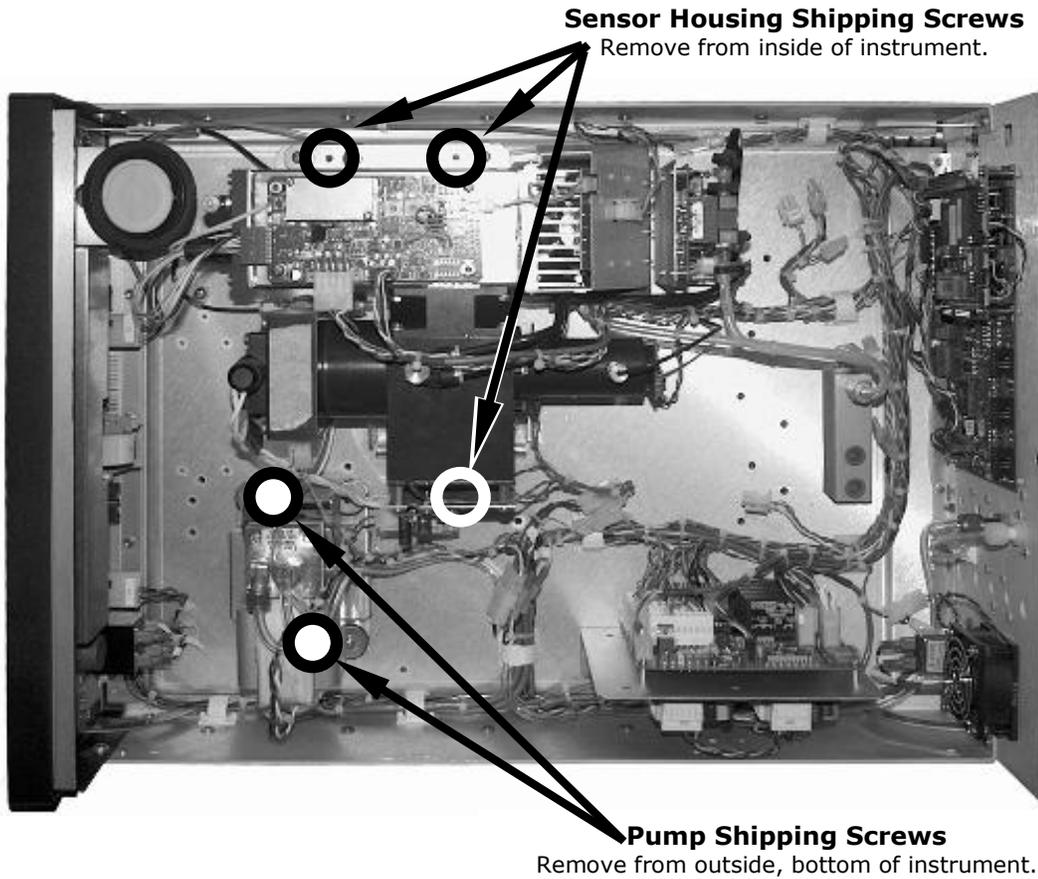

Figure 3-1: Location of Shipping Screws
7. Once you have determined that no shipping damage exists and the unit includes all expected hardware options, remove five, RED colored shipping screws from the bottom of the chassis, shown in Figure 3-1. There are: